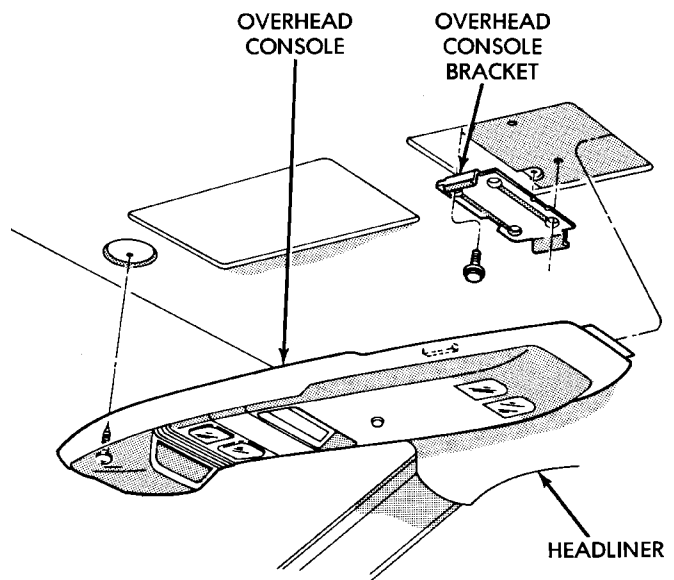

Fig. 3 Overhead Console Remove/Install - Long-Type
- (1) Disconnect and isolate the battery negative cable.
- (2) Remove the single screw located forward of the display module that secures the overhead console to the upper windshield opening reinforcement (Fig. 3).